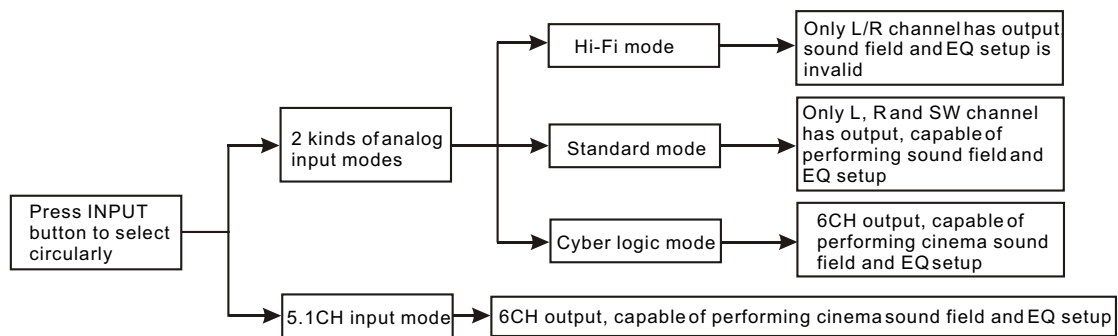

Figure 3.2.1.2 Illustration between input circuit
(1) 5.1CH input state: now A, B, 5.1CH of M62446 are in high level, L and R channel signals of 5.1CH input terminal are outputted from pin 3, 13 of N101 respectively and then sent to IC N106 for volume and tone adjustment; meanwhile C, SR, SL signals of 5.1CH input terminal are outputted from pin 14, 15, 4 of N102 and then sent to IC N106 for separate volume adjustment; in addition, SW signal of 5.1CH is outputted through pin 4 of N103, amplified by N107A and then sent to M62446.
(2) 3 kinds of analog input modes: AV225T (RU) has 3 kinds of analog input modes: tuning signal, VCD and DVD are controlled through signals A, B separately. Please refer to CD53 truth value table for reference.
(3) AV225T (RU) has 3 kinds of sound field modes in all: standard, Cyber logic and Hi-Fi.
(4) The relationship between the switch in all kinds of sound sources and sound handling mode in input circuit is show as the following figure 3.2.1.2: